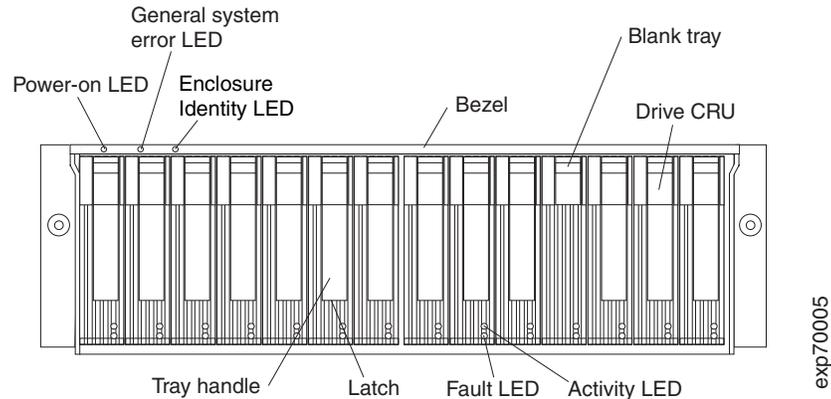

Figure 52. Hot-swap hard disk drive LEDs
2. Check for Fault LEDs shown in Figure 52. If any amber LEDs are lit, see Chapter 4, "Hardware maintenance," on page 75.